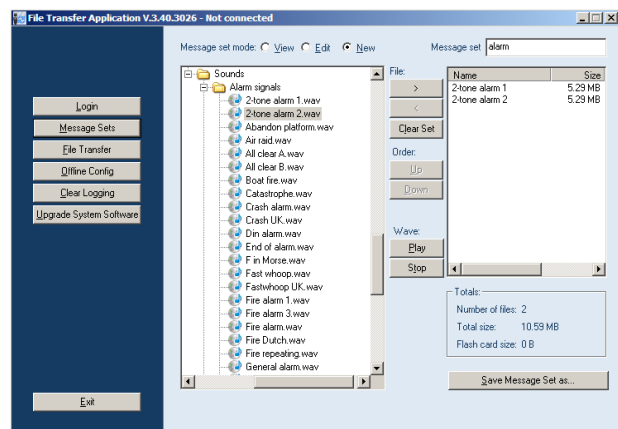

figure 44.9: Creating a message set
- 2 In the *File Transfer Application*, click the *Message Sets* button. A screen similar to the one in figure 44.9 appears.